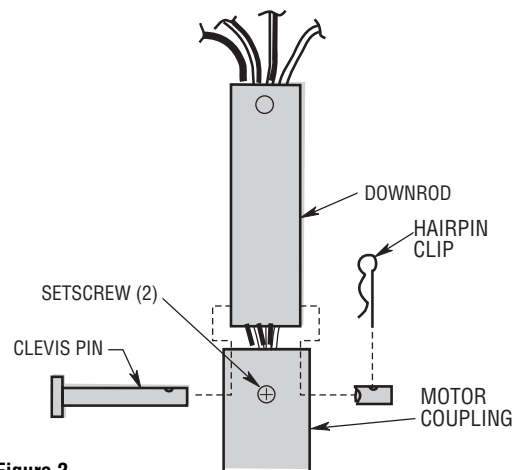

Figure 2
2. Loosen setscrew in motor coupling if necessary. Separate, untwist and unkink the four 80" motor leads. Route the motor lead wires through the downrod. Align the clevis pin holes in the downrod with the holes in the motor coupling. Install the clevis pin and secure with the hairpin clip (Figure 2). The clevis pin must go through the holes in the motor coupling and the holes in the downrod. Be sure to push the straight leg of the hairpin clip through the hole near the end of the clevis pin until the curved portion of the hairpin clip snaps around the clevis pin. The hairpin clip must be properly installed to prevent the clevis pin from working loose. Pull on the downrod to make sure the clevis pin is properly installed.
3. While pulling up on the downrod, securely tighten the two setscrews in the motor coupling (Figure 2).